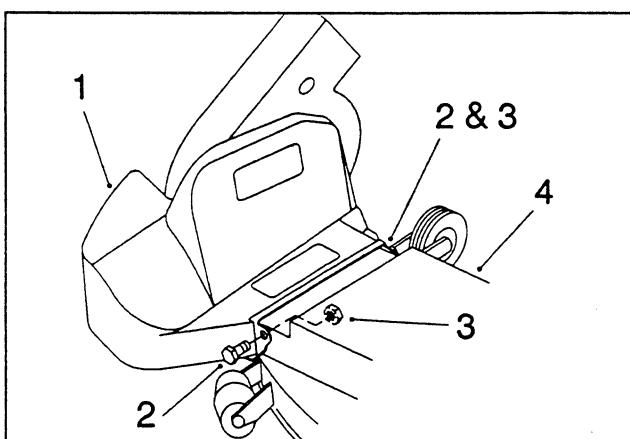

Figure 8
3. Install the **blower** belt cover using two  $1/4" \times 5/8"$  hex-head bolts and  $1/4"$  nylon lock nuts (Fig. 8). Tighten the nuts until you feel a slight drag on the cover when you rotate it. The cover must close freely.